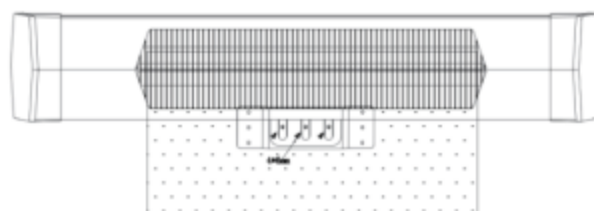

Figure 5
Finally, put the product into the slot of ④, and secure it with 3pcs 4*6mm screws as figure 5.